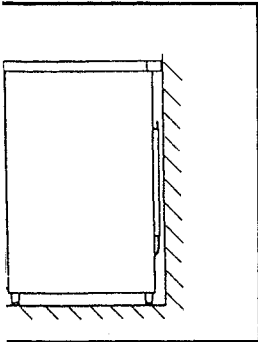

FIG 2
**3.** Your appliance will be heavy when loaded with food and must therefore be stood on a strong firm floor which should also be level. Adjust the level by screwing out the appropriate level adjusters in the feet using your fingers or a suitable spanner (see fig. 2).